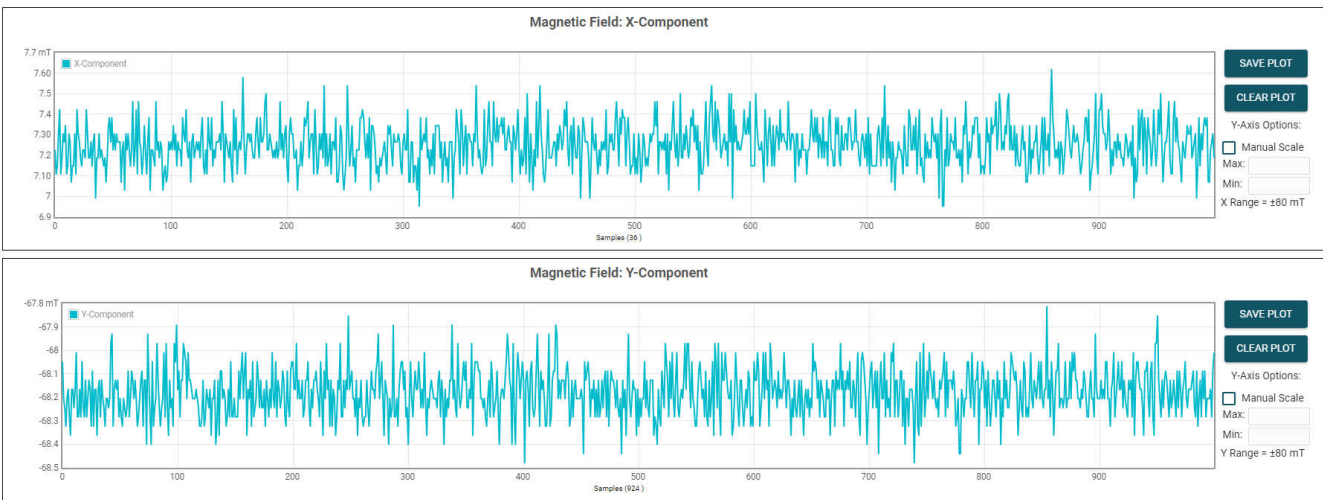
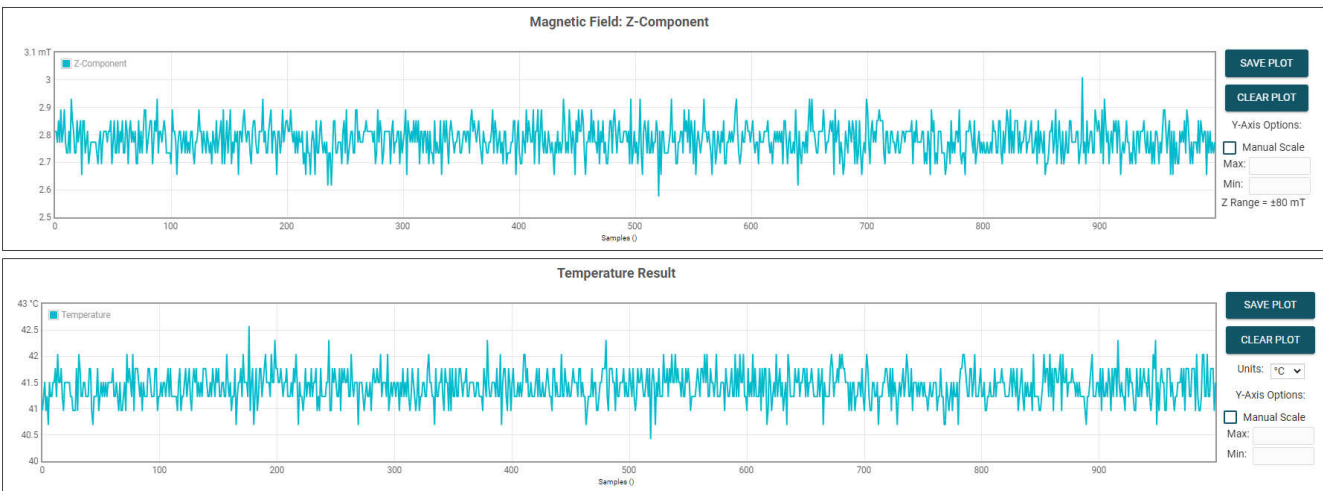
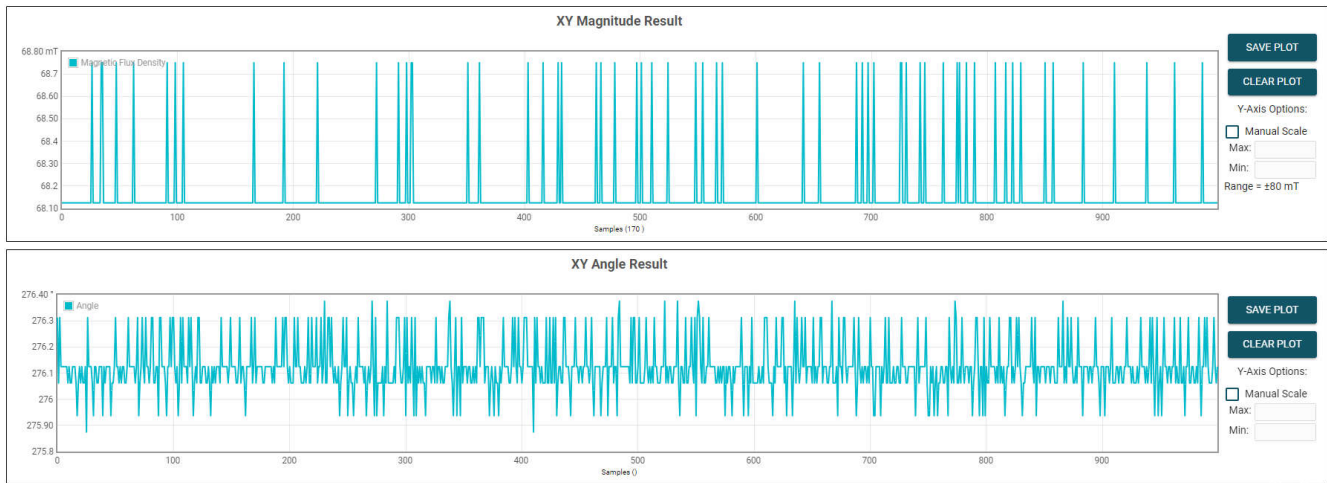

Figure 3-14. X and Y Channel GUI Plots
Figure 3-15. Z Channel and Temperature Measurement Plot
Figure 3-16. Device's Angle Measurement and Device's Magnitude Plot
4. As the user turns the knob on the Rotate & Push Module, the angle displayed on the dial and text below the dial changes accordingly. Click the *Plots* tab and press *Collect Data* to see the resulting X and Y channel waveforms (Figure 3-14), Z channel and temperature measurement (Figure 3-15), and device angle measurement and magnitude (Figure 3-16) during this process (Note: Pressing *Collect Data* results in *Auto Read* being set to *Off*).